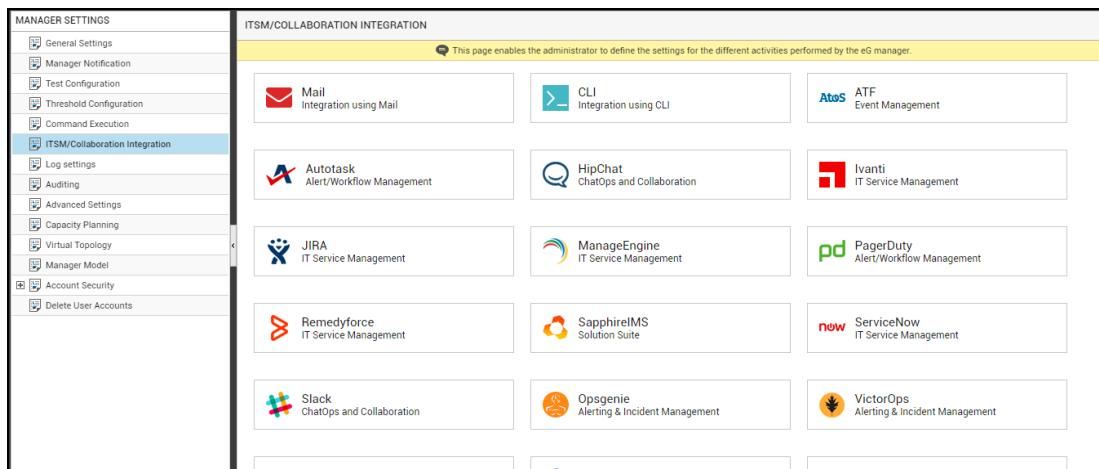
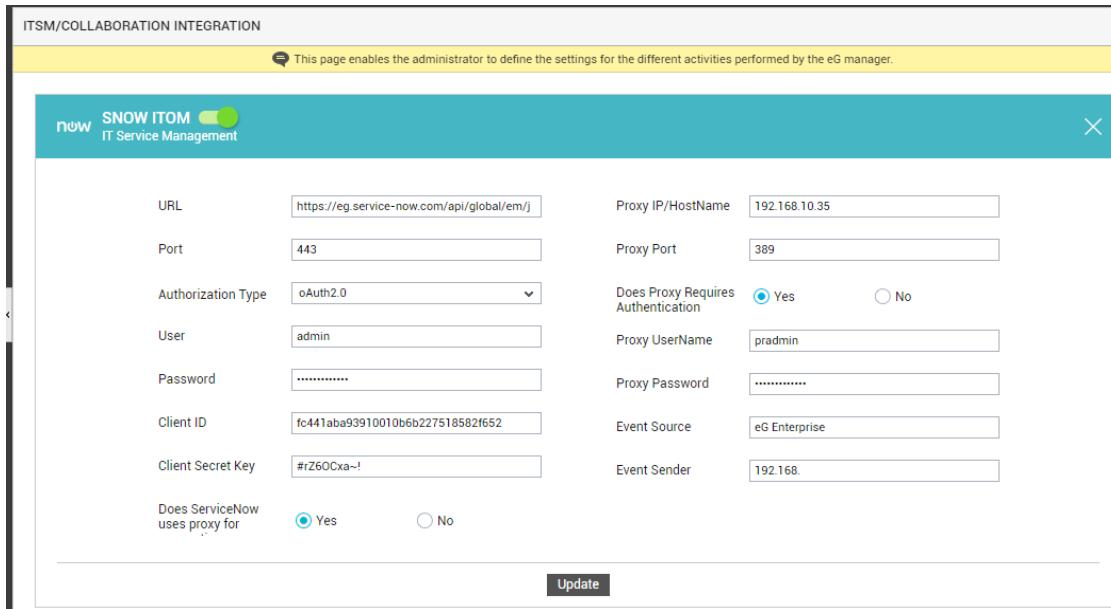

Figure 5.31: Viewing the ITSM/Collaboration tool options
Figure 5.32: Configuring integration with SNOW ITOM
3. Figure 5.31 will then appear. From the **MANAGER SETTINGS** tree in the left panel of Figure 5.31, select the **ITSM/Collaboration Integration** node. The third-party ITSM/Collaboration tools that eG Enterprise can integrate with will be listed in the right panel.
4. Now, click on the **SNOW ITOM** option in the right panel (see Figure 5.31). A **SNOW ITOM** section will now appear in the right panel (see Figure 5.32).
5. To enable integration with SNOW ITOM, first slide the **SNOW ITOM** slider in Figure 5.32 to the right.
6. Then, specify the following in Figure 5.32: